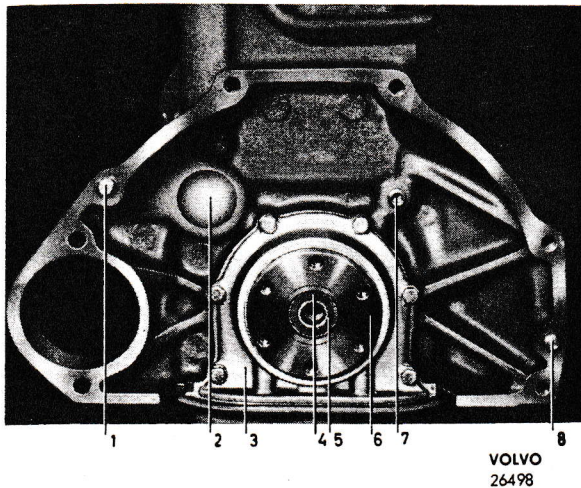

Fig. 86. Rear end of engine
The pilot bearing (5, Fig. 86) should be lubricated before being fitted with heat-resistant bearing grease. The bearing and protective washer are held in position by a lock ring (4).